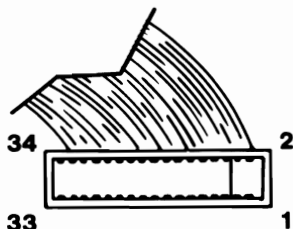

Figure 1. Signal Cable Voltage Check
- Power on the system and check the voltage at pin 8 of the signal cable (diskette drive end) as shown in Figure 1. The voltage should be 2.0 to 5.5 Vdc.